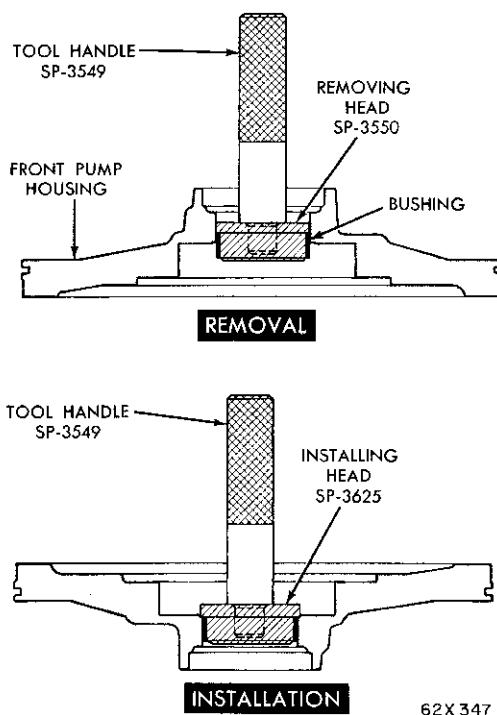
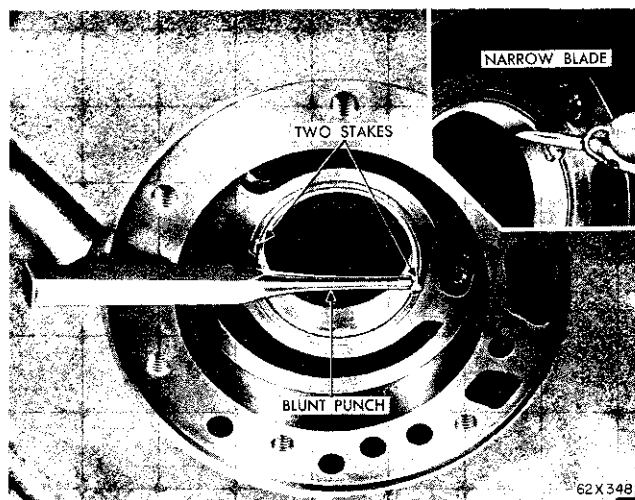

Fig. 67—Replacing Front Pump Bushing
Fig. 68—Staking Front Pump Bushing
(1) Place the front pump housing on a clean smooth surface with the rotor cavity down.
(2) Place the removing head Tool SP-3550 in the bushing, and install the handle Tool SP-3549 in the removing head (Fig. 67).
(3) Drive the bushing straight down and out of the bore. Be careful not to cock the tool in the bore.
(4) Position a new bushing on the installing head Tool SP-3625.
(5) With the pump housing on a smooth clean surface (hub end down), start the bushing and installing head in the bushing bore. Install the handle Tool SP-3549 in the installing head (Fig. 67).
(6) Drive the bushing into the housing until the tool bottoms in the pump cavity. Be careful not to cock the tool during installation.
(7) Stake the bushing in place by using a blunt punch or similar tool (Fig. 68). A gentle tap at each stake slot location will suffice.
(8) Using a narrow-bladed knife or similar tool, remove the high points or burrs around the staked area (Fig. 68). Do not use a file or similar tool that will remove more metal than is necessary.
(9) Thoroughly clean the pump housing before installation.